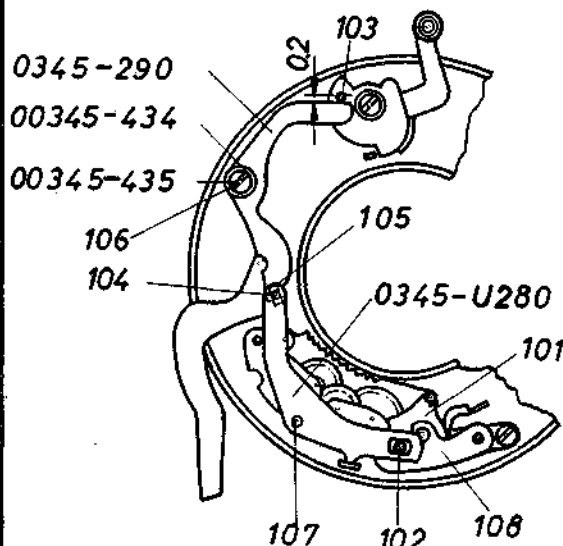
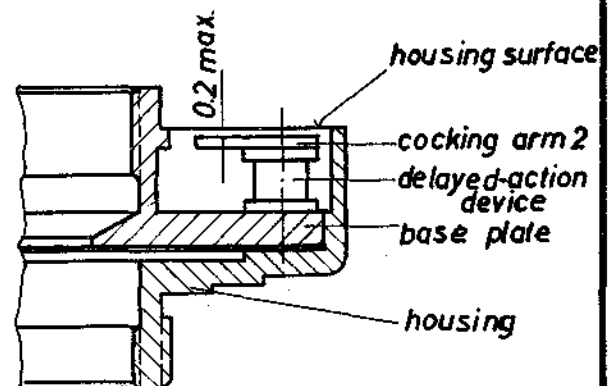

Fig. 12a
Fig. 13
(1) The PRONTOR-SVS shutter is cocked in the same manner as the other Gauthier shutters described earlier, i.e. either by means of the cocking lever projecting from the shutter casing or by means of the cocking shaft extending through a hole in the back of the casing.
(2) (a) Simultaneous cocking of the shutter mechanism and the delayed-action device is provided for by a system of levers (Figs. 12a and 12b) comprising a cocking arm 1 and a cocking arm 2. The cocking arm 2 is pivoted about a pin 102 carried by the segment wheel 101 of the delayed action device, whereas the cocking lever co-operates with the cocking arm 1 through a bevelled pin 103 which is riveted to the cocking lever.
During an initial period of the manufacture of PRONTOR-SVS shutters, the cocking arm 2 was placed freely movable on the side plate 108 (see Figs. 12a and 12b) and was held in position by the time setting ring. In some of these shutters, cumulative assembly tolerances were compensated for by the insertion of shims between the cocking arm 2 and the time setting ring. Some of these shims are made of thin spring steel strips, while others consist of plastic material.
Where shutters of this type have to be repaired, with the existing delayed-action device being retained, the above-mentioned shims will again have to be placed in position. When it is intended to install another delayed-action device, it is first necessary to measure the distance between the upper side of the cocking arm and the upper edge of the surrounding wall (see Fig 13). If this distance is found to be in excess of .2 mm (.008"), the shim should again be inserted.
(b) Cocking arm washer 00345-434 has no tension so that pin 103 will only lift cocking arm 1 in an axial direction without rotating it. (c) End of cocking arm 1 is bent upward. (2) Only with shutters according to Figs. 12a and 12b: Slot 101 of cocking arm 2 is disengaged from pin 102 carried by segment wheel.	Insert proper cocking arm washer 00345-434. Straighten cocking arm 1 until it is plain. Measure distance indicated in Fig. 13 and, if necessary, insert a compensating shim.
(2) The synchronizer and delayed-action device will run down immediately after cocking.	See Trouble (1) (a) under Synchronizer and Delayed-Action Device.